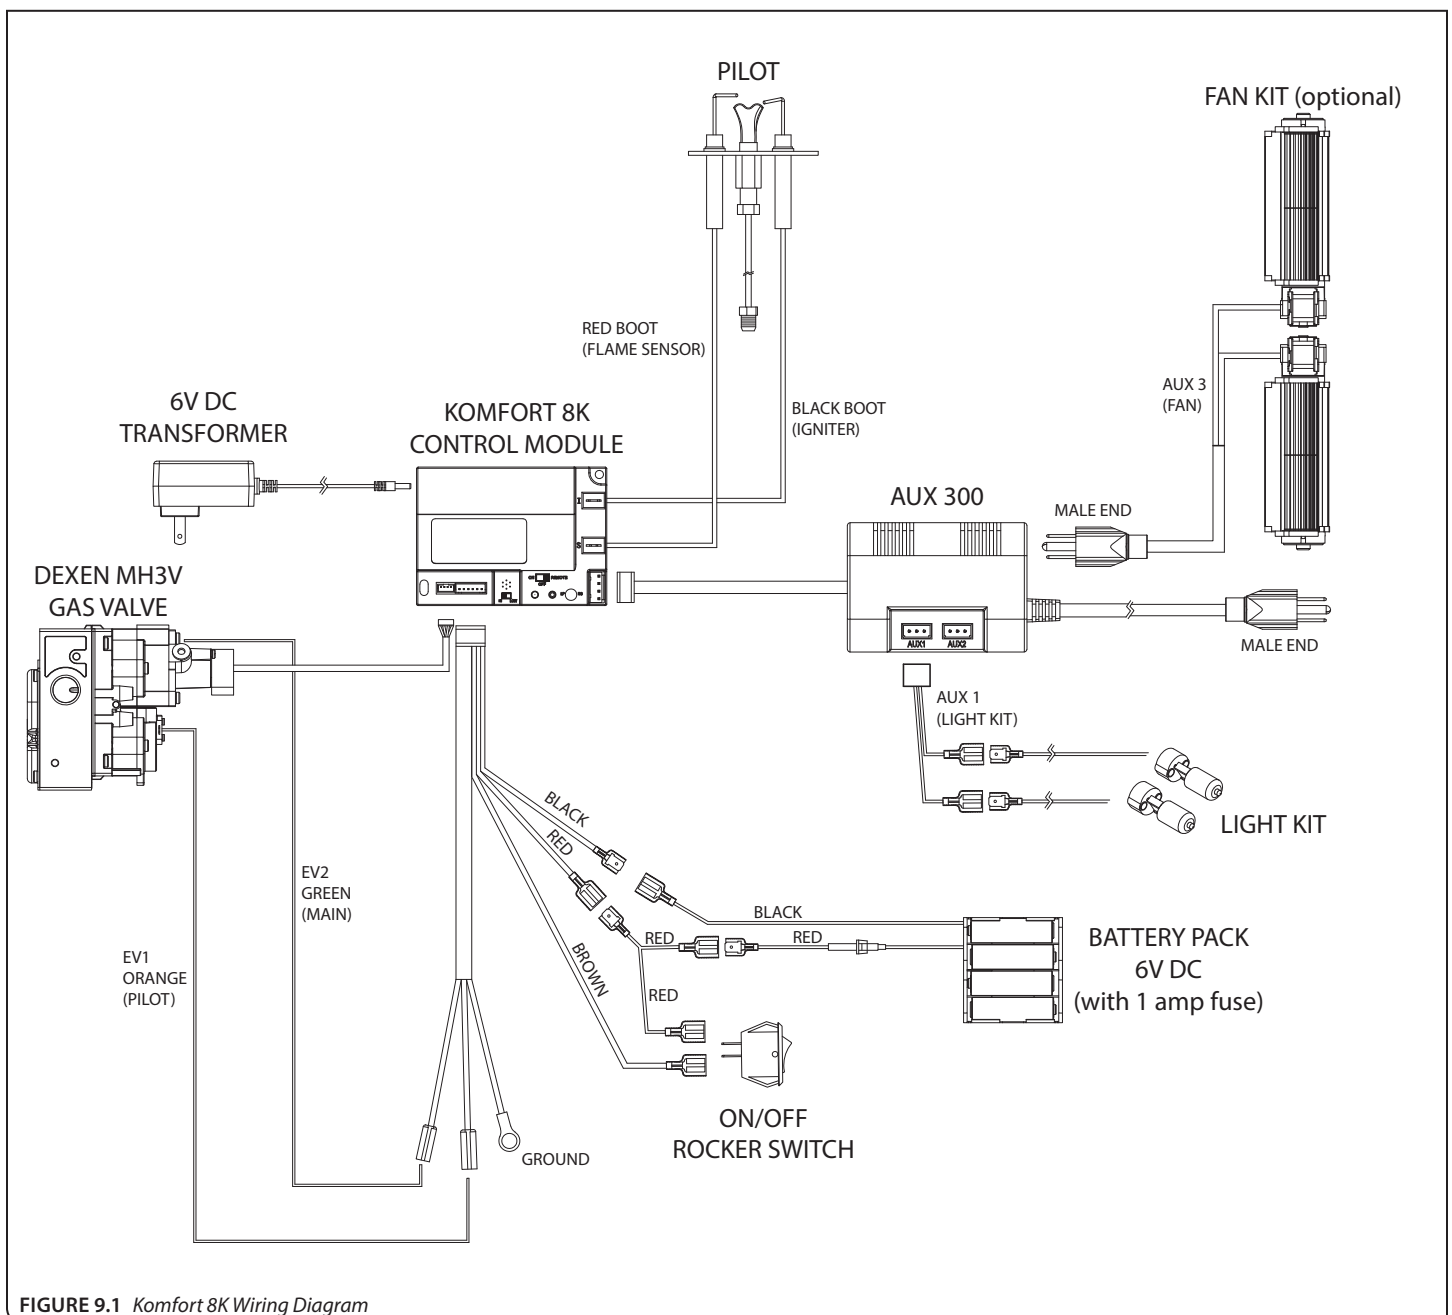

FIGURE 9.1 Komfort 8K Wiring Diagram
The wiring diagram for this appliance is shown in **FIGURE 9.1** below.
9. Plug the fan cord into the AUX3 receptacle on the AUX 300 control module. See FIGURE 9.1 on page 41.
3. Install (3) AAA batteries (included in the components packet) in the remote control battery bay.
5. Connect the fan to the AUX 300 control module **FIGURE 9.1** (page 43).